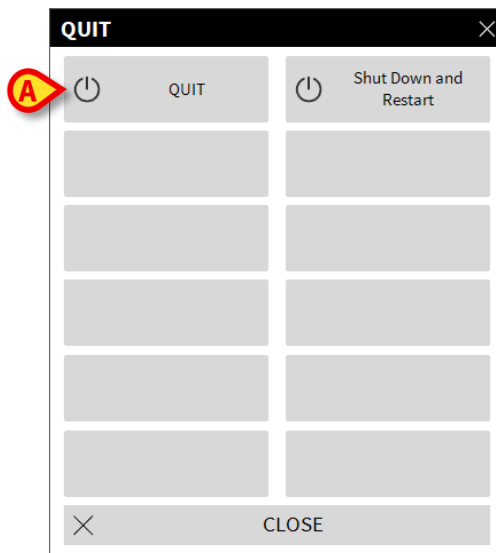

Fig 41
Another menu is displayed (Fig 41).
- Click the **Quit** button again (Fig 41 **A**)